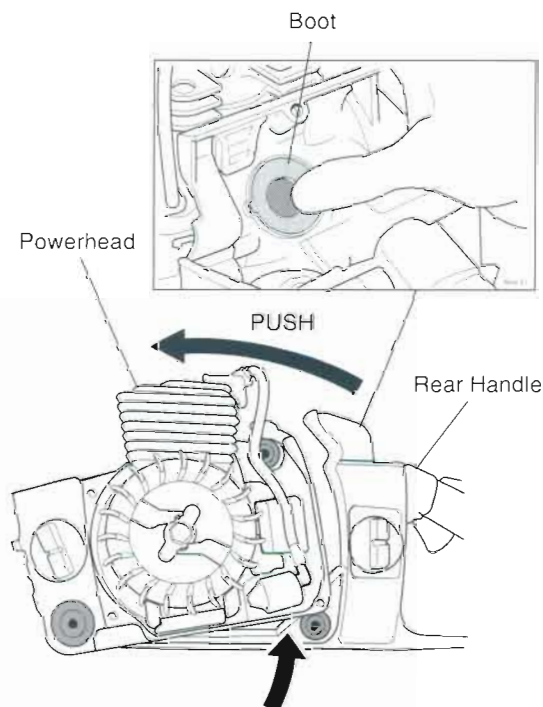

Figure 8.3 Removing the Powerhead
STEP 2. While holding the rear handle in one hand, grasp the cylinder with your other hand and then push the cylinder/crankcase assembly from the handle (Figure 8.3).
If the saw has a boot-mounted carburetor, it may be necessary to guide the carburetor boot through the flange on the airbox (Figure 8.3, inset).